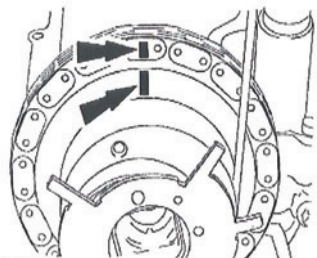

Figure 2
2. Scribe a location mark on the timing chain and camshaft phaser sprocket assembly. (Figure 2)